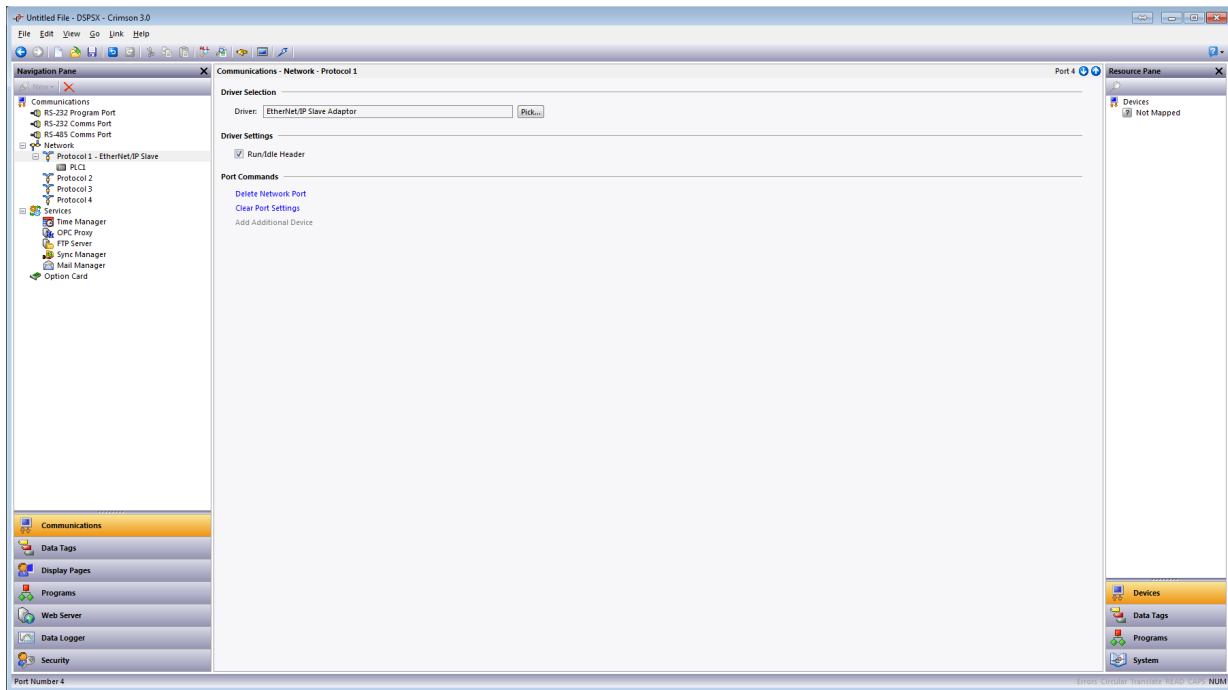

Figure 4.
8. Select *Slave Adaptor* under Driver. Click the *OK* button; the Communication - Network - Protocol 1 popup appears, as shown in Figure 4.
9. Referring to Figure 4, check the *Run/Idle Header* check box.